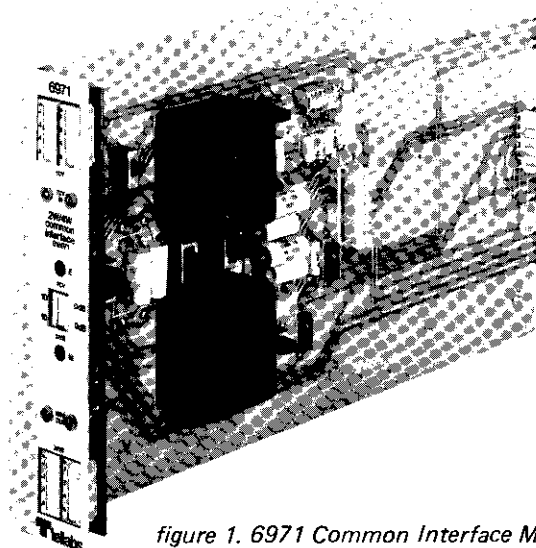

figure 1. 6971 Common Interface Module
1.01 The 6971 Common Interface Module (figure 1) provides transmission interface between 4wire transmission equipment and a 2wire or 4wire telephone station loop or a PBX trunk. Both adjustable transmission attenuation and switch-selectable 4wire-to-2wire conversion are provided. As an alternative to 4wire-to-2wire conversion, the 6971 may be switch-optional to provide a 4wire-to-4wire pad/transformer interface. In addition, the 6971 accepts several types of optional signaling converter plug-on subassemblies that provide various modes of loop-to-E-and-M and E-and-M-to-DX signaling conversion.